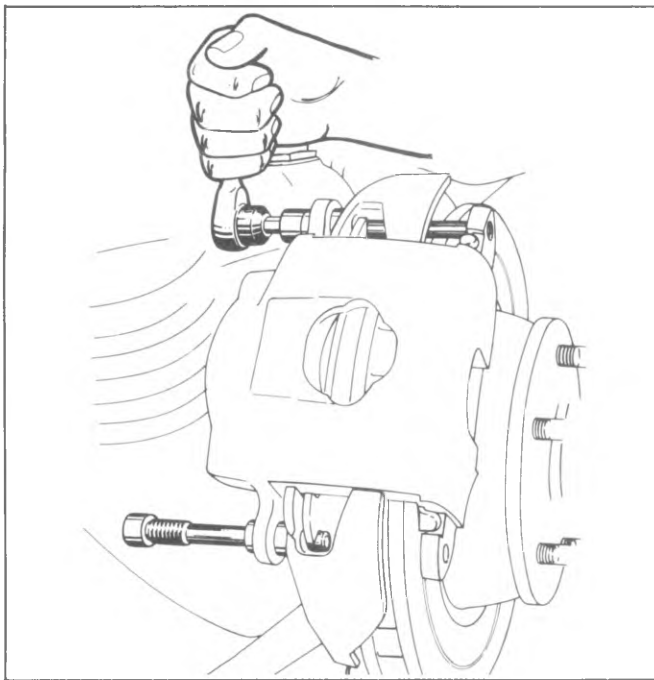

Fig. 5-21--Removing Mounting Bolts
3. It is not necessary to disconnect the brake hose for shoe and lining replacement. Remove the two mounting bolts which attach the caliper to the support bracket (fig. 5-21). Lift the caliper off the rotor and remove the inboard shoe. *Dislodge the outboard shoe and position the caliper on the front suspension arm so that the brake hose will not support the weight of the caliper. Remove the shoe support spring from the cavity in the piston.*